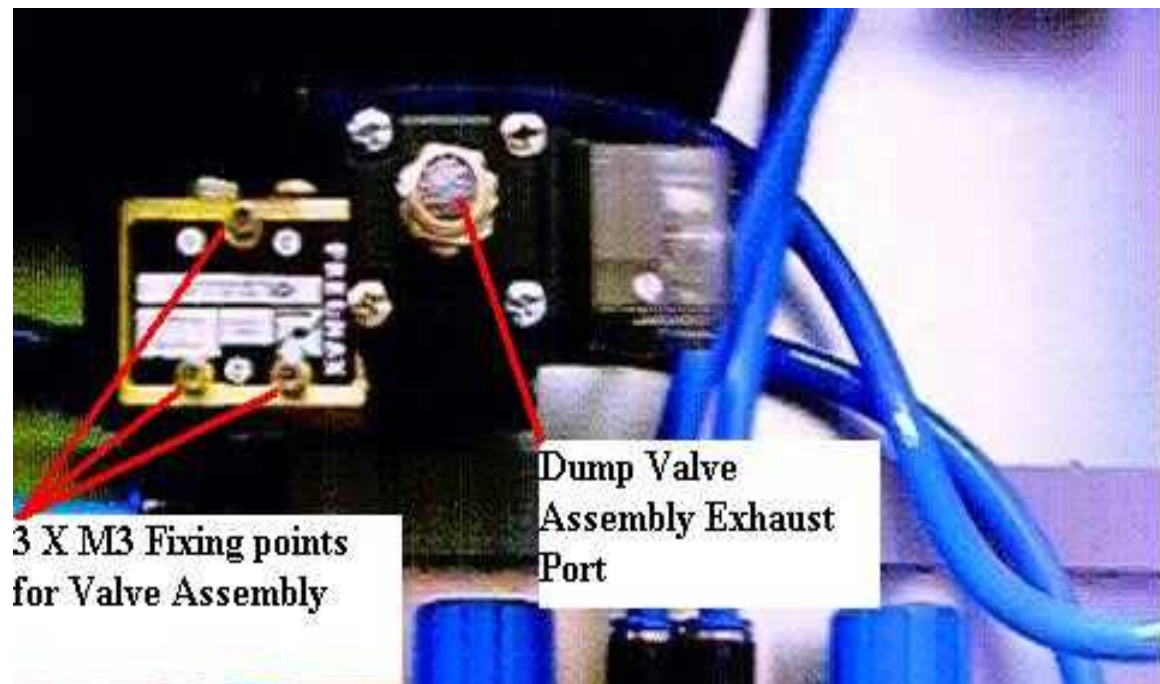

Figure 2. Showing the three M3 fixing points for the Valve Assembly and Exhaust Port
2. Remove three M3 Allen Key bolts that secure the Valve Assembly as shown in Figure 2.